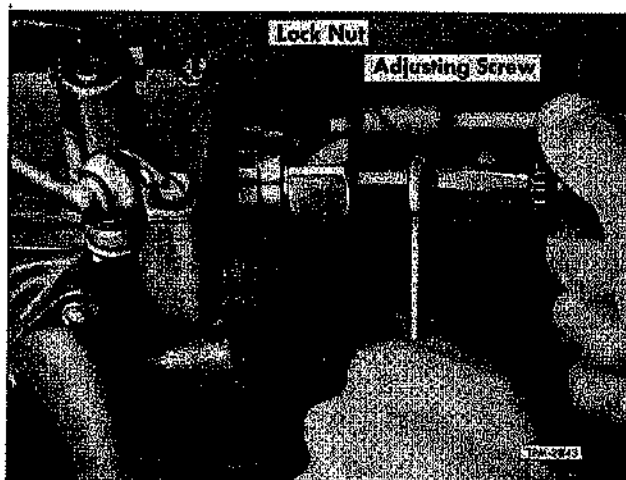

Figure 56—Adjusting Engine Idle Speed
4. If necessary to adjust, loosen lock nut and turn idle adjusting screw IN to increase or OUT to decrease speed (fig. 56). Lock adjusting screw with lock nut when idle speed is approximately 15 RPM below desired setting.